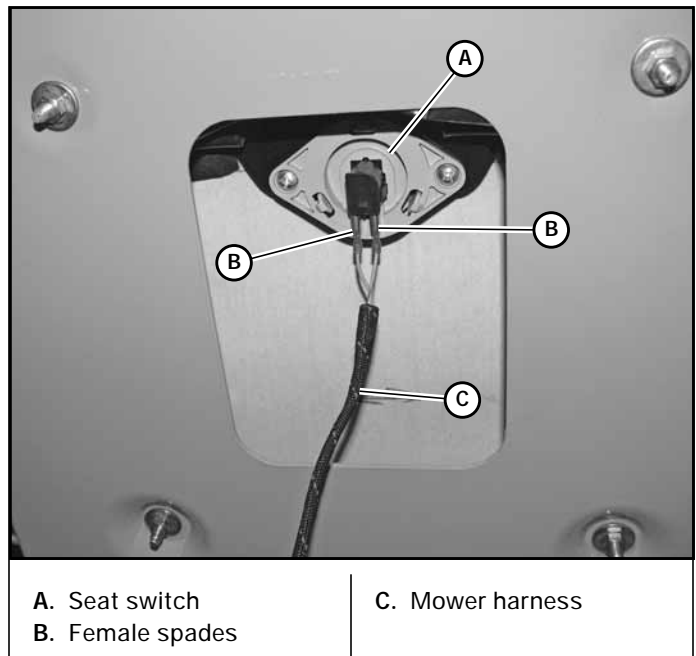

Figure 4-1
- Bypass the seat switch by connecting the two mower harness female spades together .Figure 4-1
- Reconnect them to the seat switch. This must be completed so that the safety circuit is functioning properly. Figure 4-1
ing properly. Figure 4-1